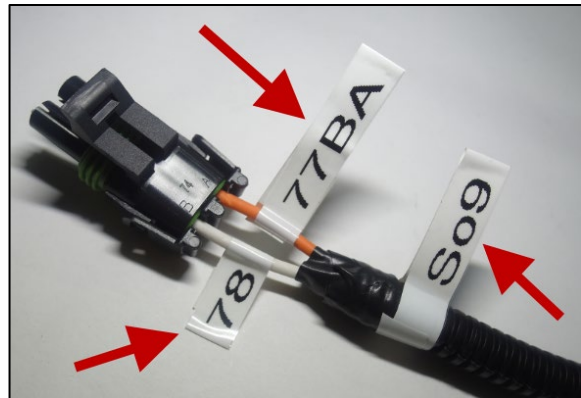

FIGURE 48
88. Attach label So9 (connector ID) on the harness as shown in Figure 48.
89. Attach label 77BA on the orange wire as shown in Figure 48.
90. Attach label 78 on the white wire as shown in Figure 48.